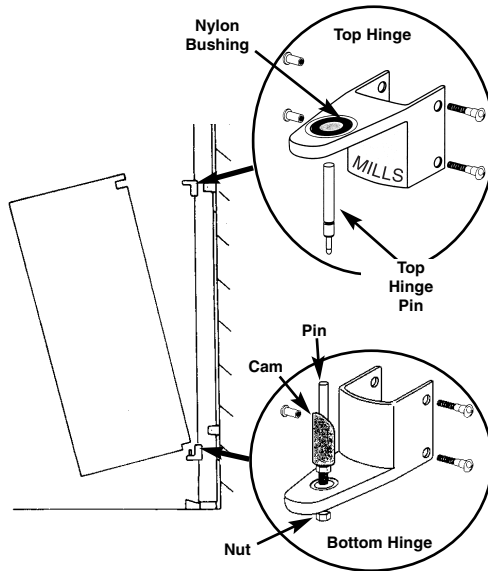

FIGURE 7
B. Install pin thru cam to bottom hinge as shown in figure 7. Put on nut but do not tighten at this time.